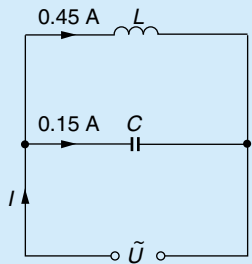

Figure 58
1. Determine the current I in Figure 58 and state whether it leads or lags the voltage U .